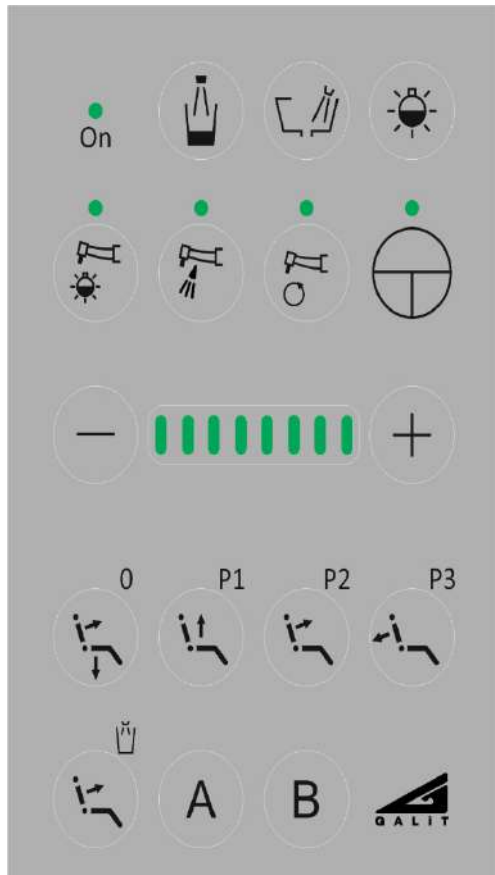

Figure 5.1.1 Doctor table control panel
- when briefly pressing the **button to fill the cup**  on the doctor table control panel (Figure 5.1.1) or on the assistant table control panel (for versions with the assistant control panel) - water enters the cup during 3 sec. If you press the control panel button again earlier than 3 sec. , supply of water to the cup stops;
- when briefly pressing the **button to rinse bowl**  on the doctor table control panel (Figure 5.1.1) or on the assistant table control panel (for versions with the assistant control panel) – the bowl is being rinsing during (10-12) seconds. If you press the control panel button again earlier than (10-12) seconds, the bowl rinsing stops.